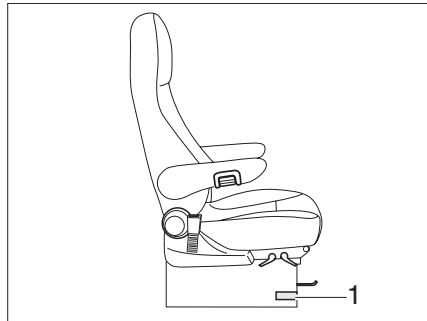

Fig. 63 Driver's seat and front passenger's seat
- ▶ Push or pull the level to turn the seat (Fig. 63,1). The seat is released from the locking device.
- ▶ Grip lever (Fig. 63,1) under seat and pull it forward.
- ▶ Release lever (Fig. 63,1) again.